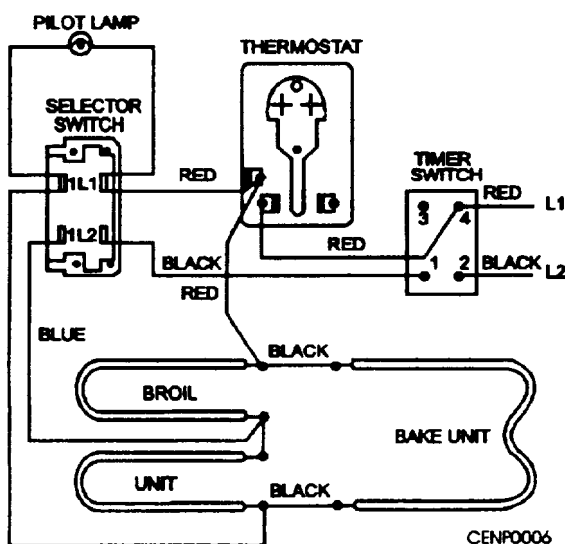

Figure 7-6.—Oven-heating circuit with two heating units.
**OVEN-HEATING ELEMENTS.**—The ovens of electric ranges are equipped with open or enclosed elements. These include the rod and coil, suspended coil, spiral-wound, or tubular types. Ovens have two heating elements. One is located in the upper part of the oven and the other in the lower part. Oven elements work off a thermostat to control heat temperature and a timing device for automatic shutoff, as shown in figure 7-6.